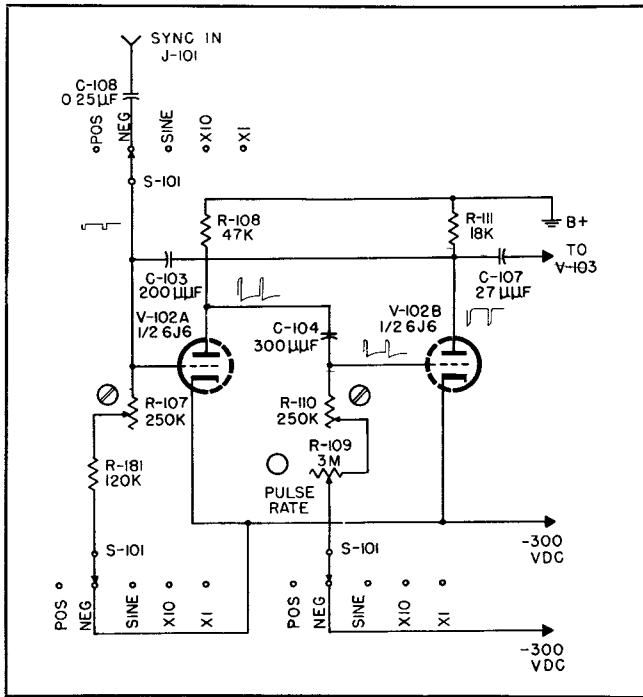

Figure 3-10. External Negative Pulse Sync. Circuit
(3) EXTERNAL NEGATIVE PULSES.—When the external synchronizing voltage is a negative pulse, the grid of V-102B is returned through S-101 to a point about 30 volts negative with respect to the cathode so that the tube is cut off (figure 3-10). The grid of V-102A is returned to the cathode causing high plate current in the tube. This is a stable condition so that the circuit does not act as a multivibrator on external negative pulses but as a kind of pulse repeater.